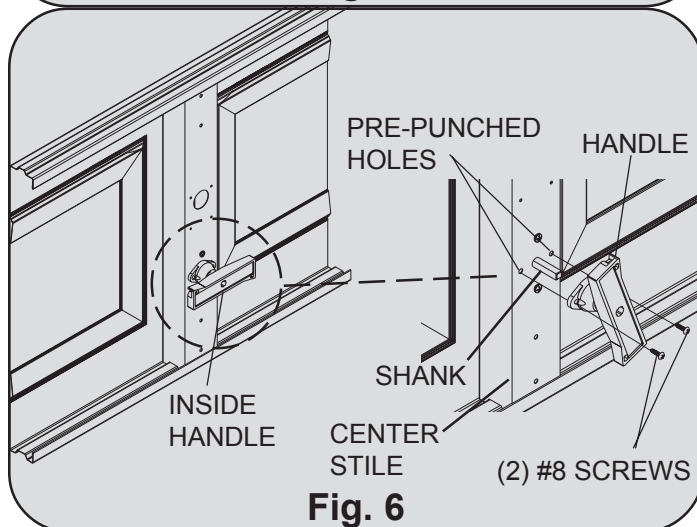

Fig. 6
8000/8100/8200 & 9000 Series doors (see Fig.6), position the inside handle over the shank of the outside handle, flush against the center stile. Align the holes in the handle with the pre-punched holes in the center stile, then turn the handle clockwise to secure with (2) #8 screws.